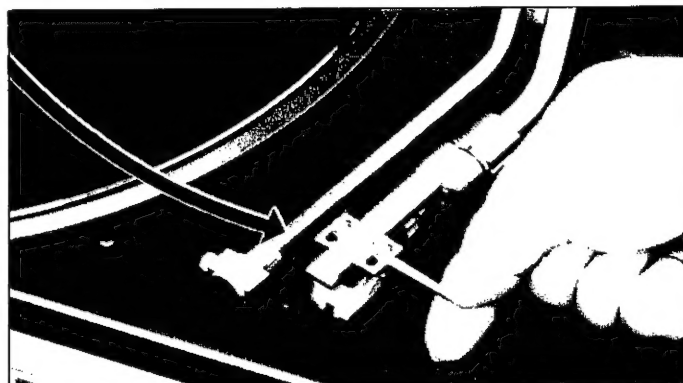

Figure 12
4. Replace the tonearm on the rest with your hand (See Figure 12).